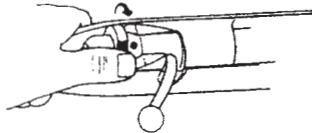

Fig. 1
The safety is located at the rear of the bolt (Fig. 1) and must be manually moved to the desired position by the shooter.
Rotate the safety cap full to the left (counterclockwise) to the safety "ON" (SAFE) position (see Fig. 1).
Rotate the safety cap fully to the left (counterclockwise) to the “ON” (SAFE) position (Fig. 1). During unloading, never allow fingers or any other object to contact the trigger. Keep the muzzle pointed in a safe direction at all times.
Rotate the safety cap fully to the left (counterclockwise) to the “ON” (SAFE) position (Fig. 1); keep the muzzle pointed in a safe direction.
- a. Rotate the safety cap fully counterclockwise to the “ON” (SAFE) position (Fig. 1).